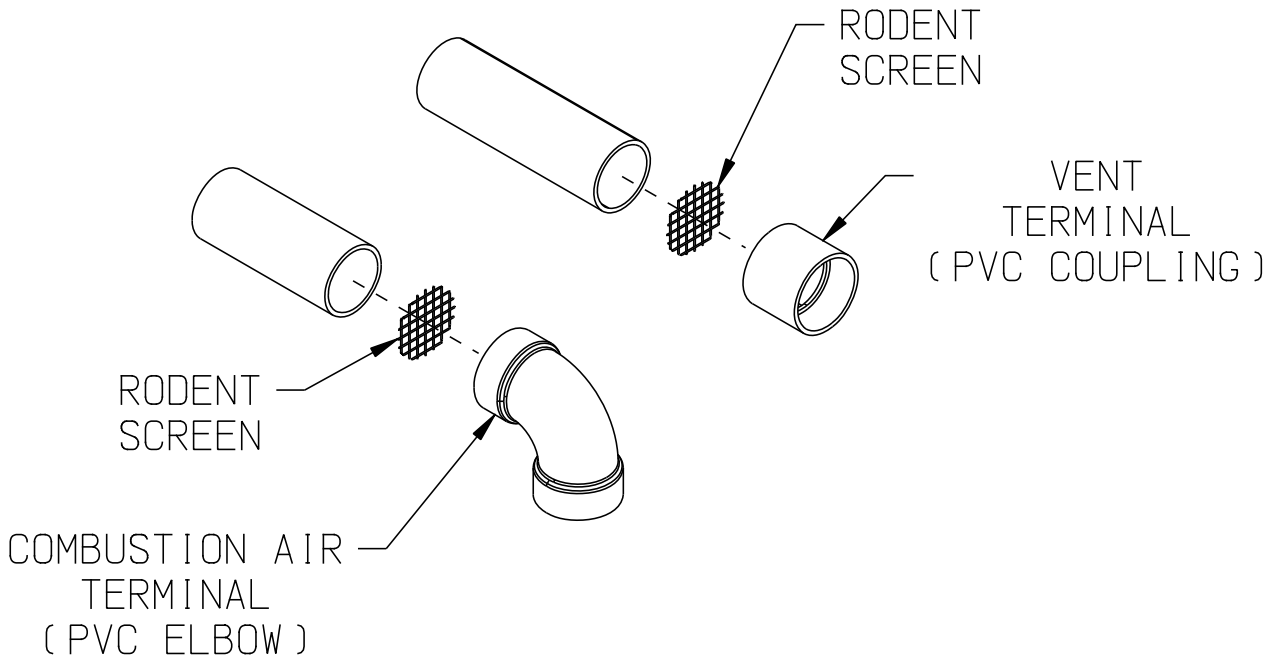

FIGURE 7.28: INSTALLATION OF STANDARD HORIZONTAL TERMINALS
- a. See Figure 7.28 for proper orientation of twin pipe horizontal terminals. Outer edge of both terminals must be within 10" from wall surface. (Figure 7.6)